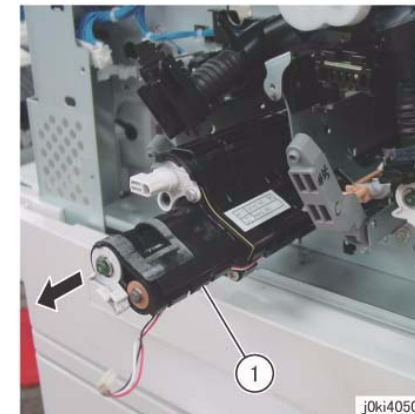

Figure 12 Remove the Developer Housing Assembly (K)
15. Remove the Developer Housing Assembly (K). (Figure 12)
- a. Remove the Developer Housing Assembly (K).